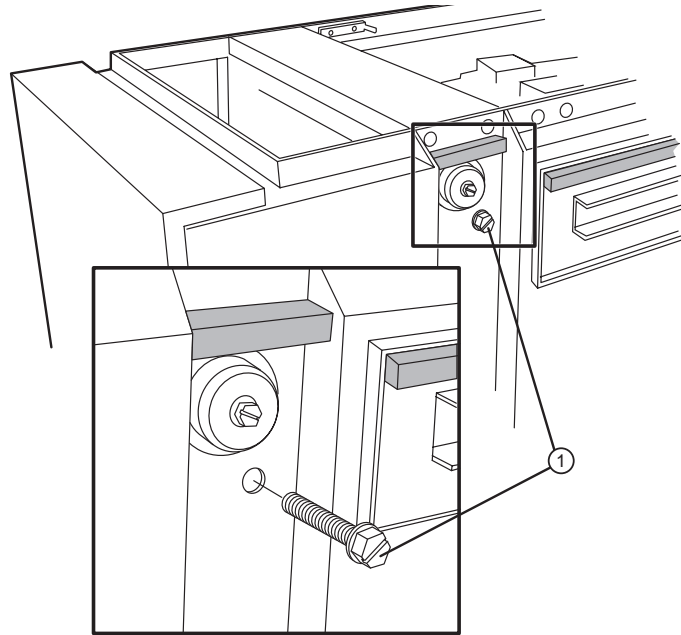

Figure 1-6 Unlocking the carriage lock bolts.
1. To unlock the buffer carriage, remove the two (2) shipping screws from the top rear of the buffer. Refer to Figure 1-6.